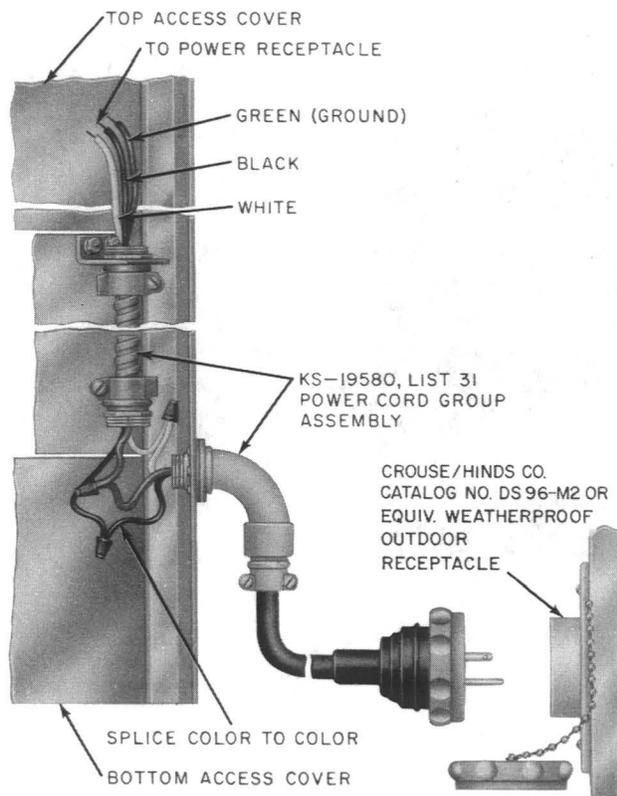

Fig. 16—KS-19580, List 31 Cable and Cord Group for Ground Level Entrance
3.13 For ground level entrance with plug-in features, use KS-19580, List 31 power cord group and install per Fig. 16.